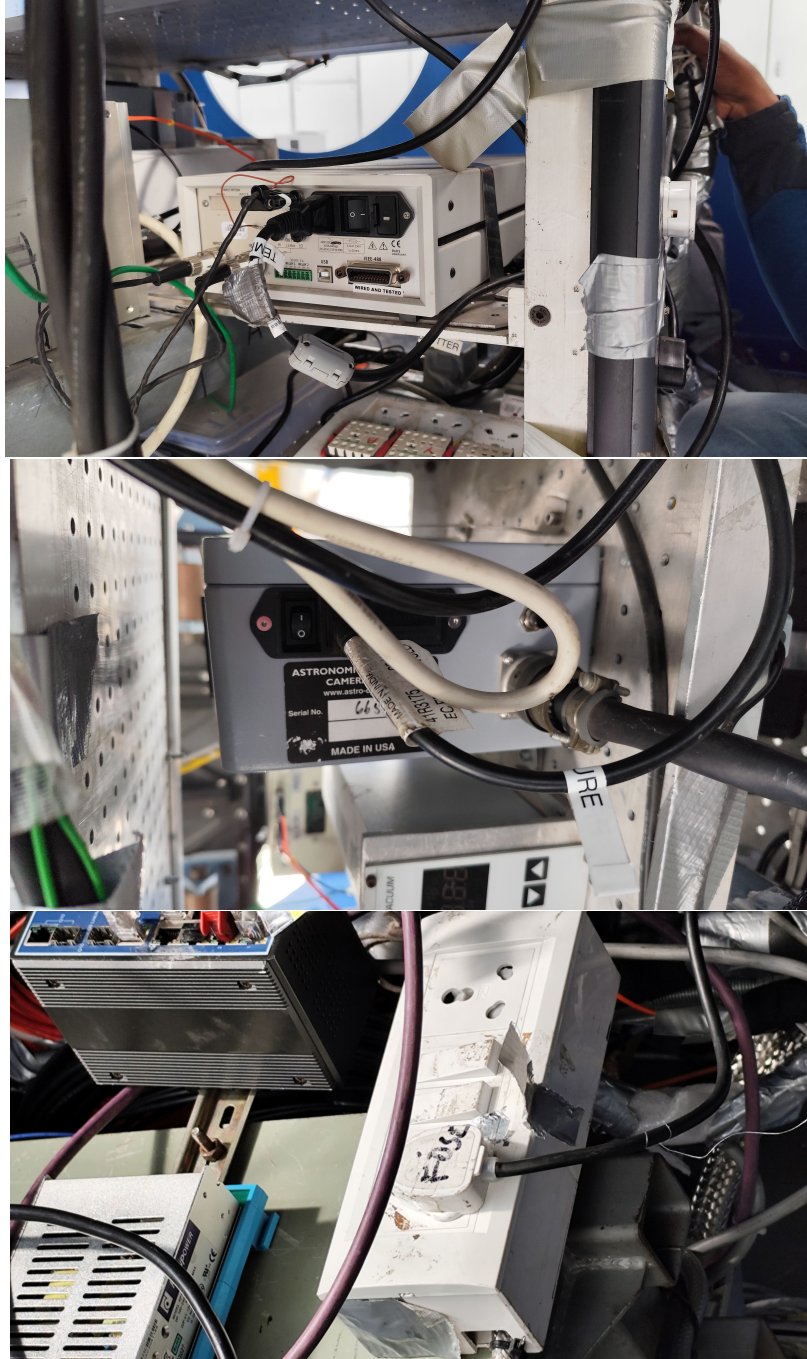

Figure 2: Top to bottom: CCD temperature controller, pressure controller, ADFOSC main switch.
7. Now, switch off the Lakeshore controller (CCD temperature controller) and turn off the ADFOSC power from the side plug points as shown in Fig.2.